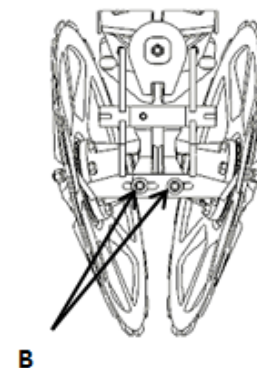

Figure 7-14: Bottom Scrapers
1. Loosen bolts (B), shown in Figure 7-14.
3. Tighten bolts (B).